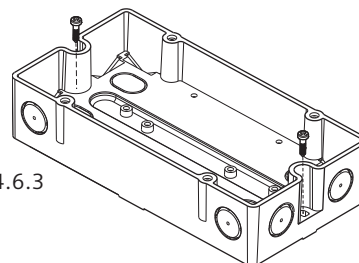

Fig. 4.6.3
3. Mount the housing on a flat surface with two M4x15 screws (Fig. 4.6.3). Distance between holes: 182.0±1.0mm.